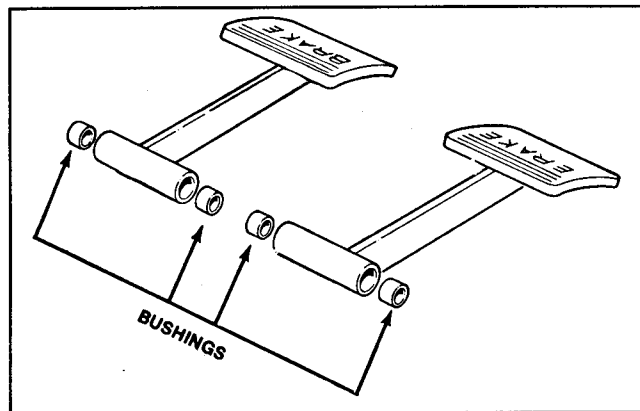

Figure 11
4. Use a pin punch and hammer to drive both bushings out of the brake pivot (Fig. 11). Clean the inside of the brake pivot to remove any dirt and foreign material.